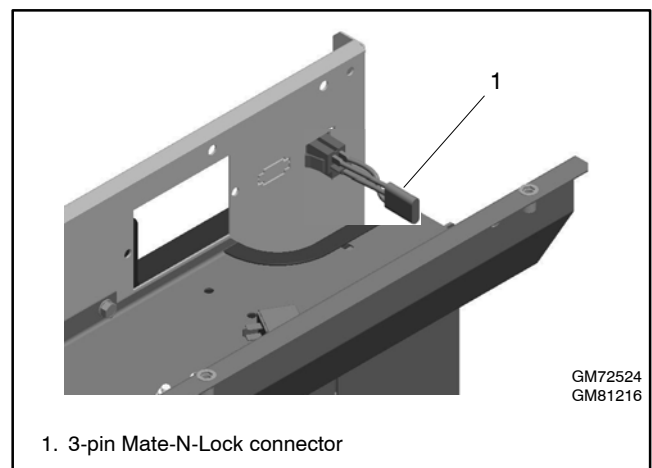

Figure 6 Disconnect Power Cable from 120VAC Receptacle
16. Locate the 3-pin power connection to the 120 VAC receptacle. See Figure 6. Disconnect the power at the 3-pin Mate-N-Lock connector. The 120 VAC receptacle now has no power connected.